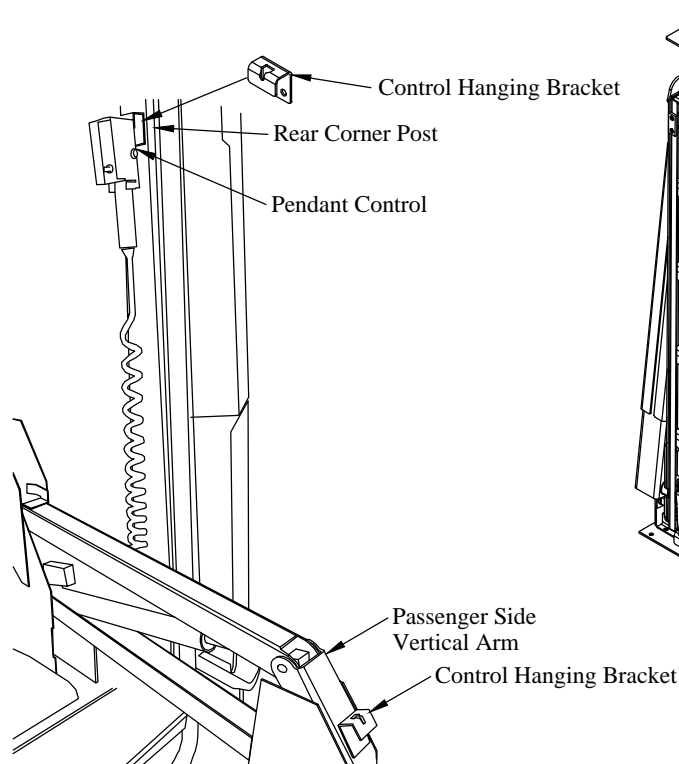

Figure 27: Control Hanging Brackets.
7. **Select** a location to install the control hanging bracket. Use a location on the passenger side rear corner post of the van at a height that allows the entire pendant cord to be completely inside the van when stored (Figure 27).
12. **Install** second control hanging bracket with supplied 3/8" bolts on the passenger side vertical arm where the lifting angle was removed (Figure 27).